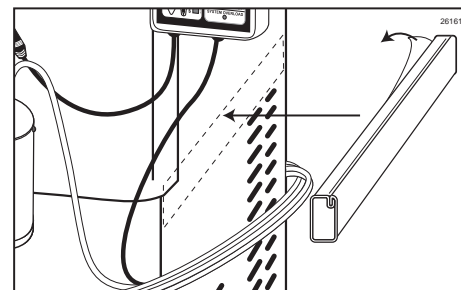

Figure 143
4. Remove the protective adhesive tape from the Casing and mount the Casing to the desired area on the freezer. (See Figure 143.)